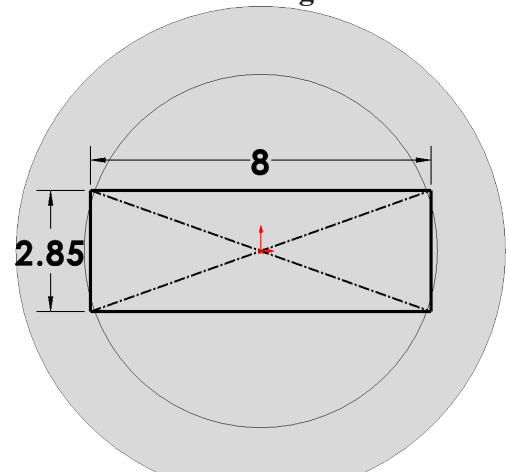

Fig. 11
Step 6. Add dimensions, **Fig. 11**.